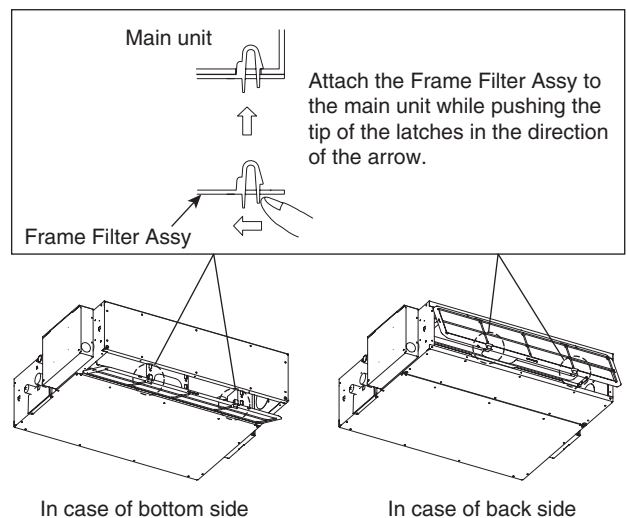

Fig. 3-6
- (3) Attach the frame filter assy (supplied) in the manner shown in the diagram. (Fig. 3-6)